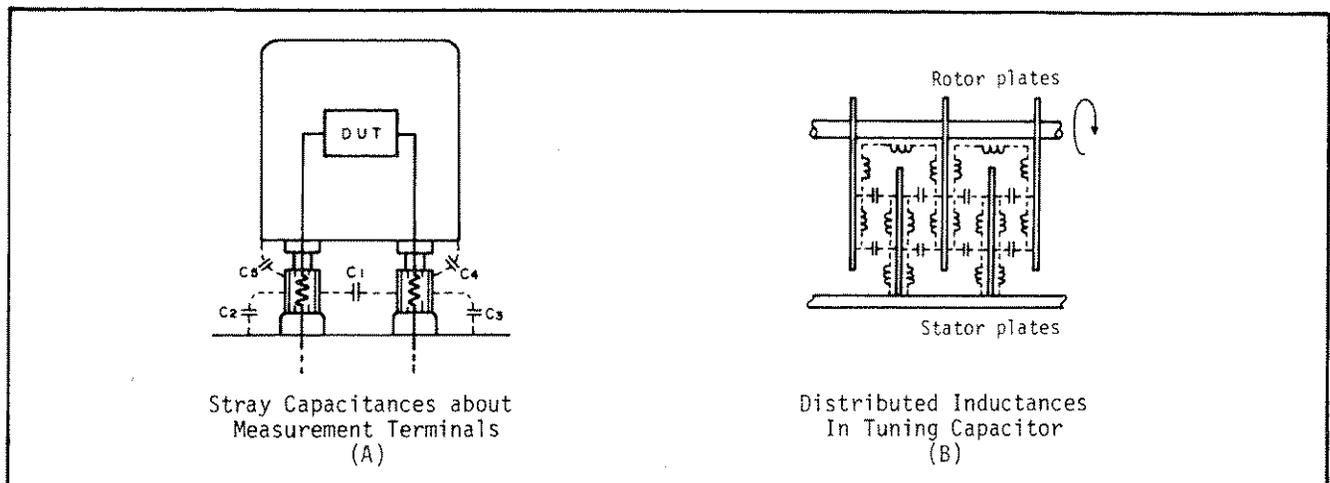

Figure 3-11. Residual Parameters.
3-61. Certain residual impedance elements change with the method of connection of the sample; in addition, the residual impedance also depends upon the mutual distances between the sample and the individual components of the measurement apparatus. Typical circuit models showing such residual factors are illustrated in Figure 3-11. C_4 and C_5 in
Figure 3-11 (A) exhibit the stray capacities added by connecting a sample with a shielded case. This capacitance increase adds to the stray capacitances (C_1 , C_2 and C_3) around the measurement terminals. In a series measurement, the shorting strap, for initially short-circuiting the unknown connection terminals, has its own residual impedance. Additionally, its contact resistances differ from those of samples. Small changes in the loss and the distributed inductance of the tuning capacitor affect measurement accuracies. Figure 3-11(B) graphically shows an electrical model of a variable capacitor. The distributed inductance and the loss varies depending on the position of the capacitor rotor. In the 4342A, these residual factors are minimum because specially designed, high quality variable capacitors are employed in the tuning circuit.